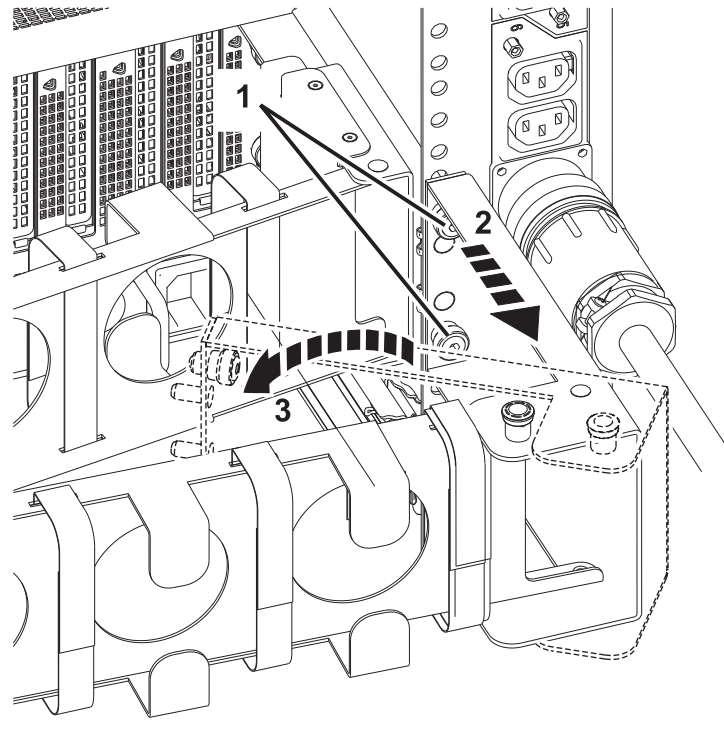

Figure 22. Steps to provide line cord clearance in a fully-populated system
- b. From the rear of the rack, loosen (but don't remove) the head screws (1). See Figure 22 on page 29.
- c. Pull the cable management arm bracket toward you (2). See Figure 22.
- d. Pivot the cable management arm bracket to provide clearance (3). See Figure 22.